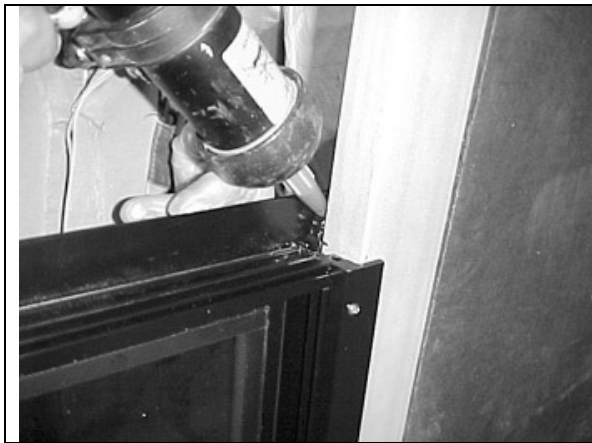

FIGURE 69 : AWNING WINDOW – SEAL THE UPPER CORNERS
11. Using Sika 252 or 255, seal the upper corner of the awning window, both sides (FIGURE 69).